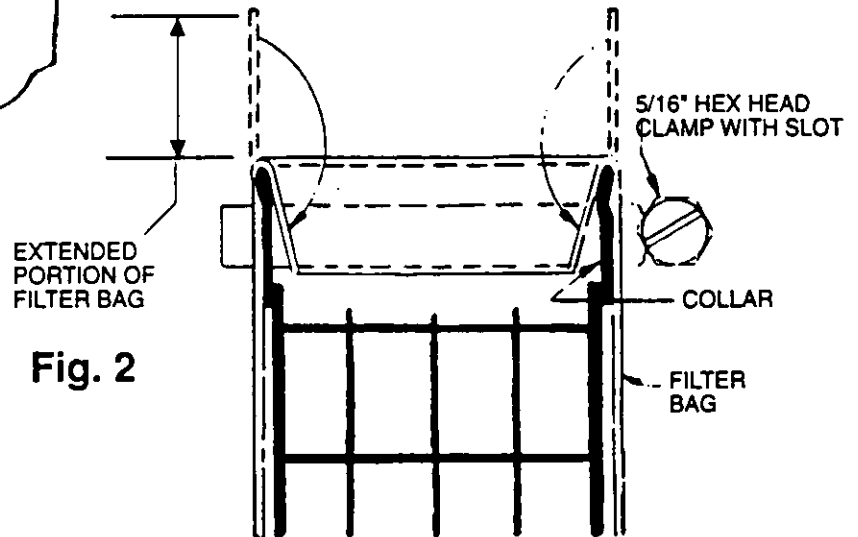

Fig. 2
- b. Fold the top of the filter bag inside the retainer (Figure 2) and loosely install a bag clamp around the top of the bag/retainer assembly, with the clamp screw located approximately 90° off the bag seam.